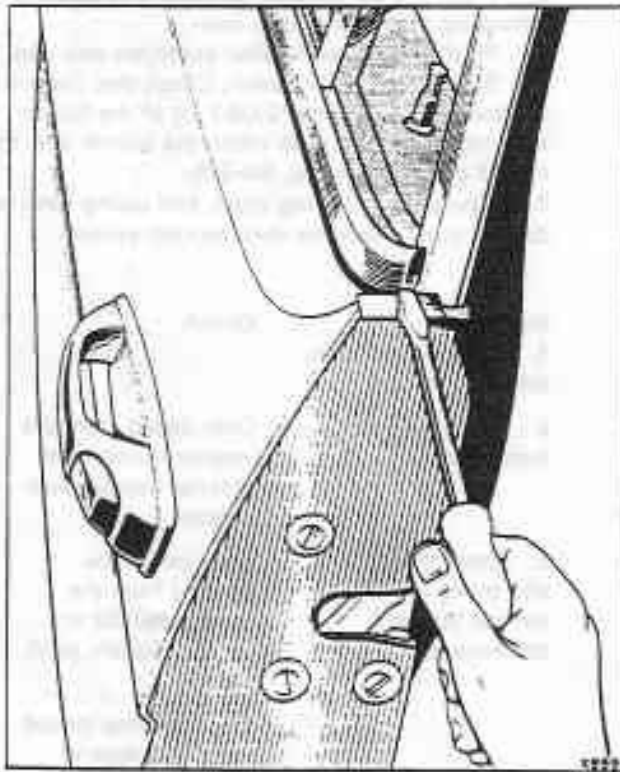

Fig. S4-22 Raising the fence moulding
1. Insert a small sharp screwdriver or similar tool under each end of the moulding in turn (see fig. S4-22). Do not lever on the paintwork. Insert a small piece of rubber or felt to protect the paintwork (see fig. S4-22).